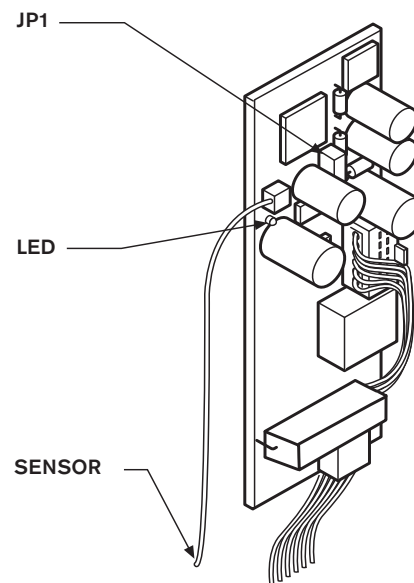

Fig. 36 ADM - switches and LED's
8. Make the jumper **JP1** on the **ADM** while powering up the appliance, see Fig. 36.